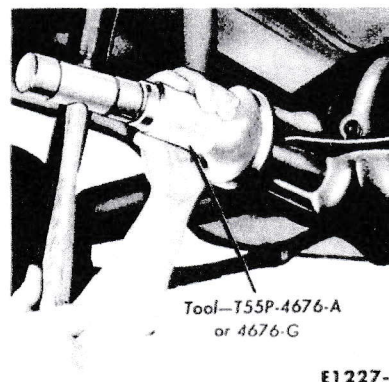

FIG. 12—Typical Drive Pinion Flange Seal Installation
9. Coat the outer edge of the new seal with a small amount of oil resistant sealer. **Do not put any of the sealer on the sealing lip.** Install the seal in the retainer, using the tool shown in Fig. 12 on integral carrier type axles. With removable carrier type axles, use tool T62F-4676-A or 4676-H on all except cars equipped with high performance engines. On cars equipped with high perform-